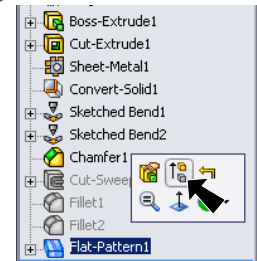
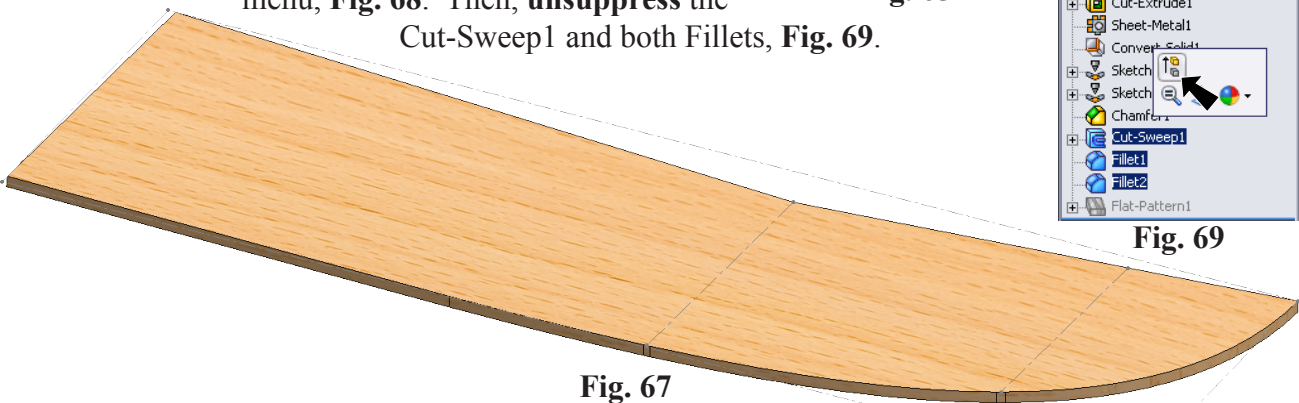

Fig. 66
Fig. 67
Step 2. To Flatten, click the **Flat-Pattern1** feature in the Feature Manager and click **Unsuppress**  in the menu, **Fig. 66** and **Fig. 67**.